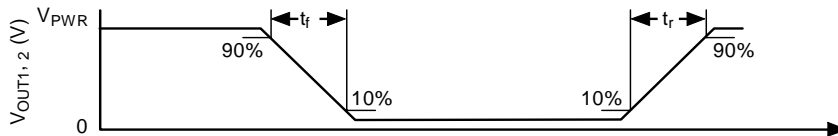

Figure 6. Output Switching Time
- Rise Time is from the 10% to the 90% level and Fall Time is from the 90% to the 10% level of the output signal. See Figure 6, page 8.